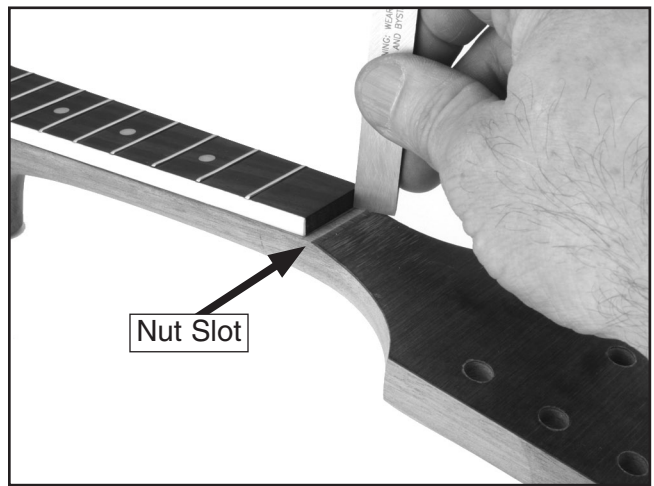

Figure 33. Example of cleaning out the nut slot.
1. Use a chisel to carefully scrape all of the finish out of the nut slot (See **Figure 33**). DO NOT remove any wood from the nut slot.